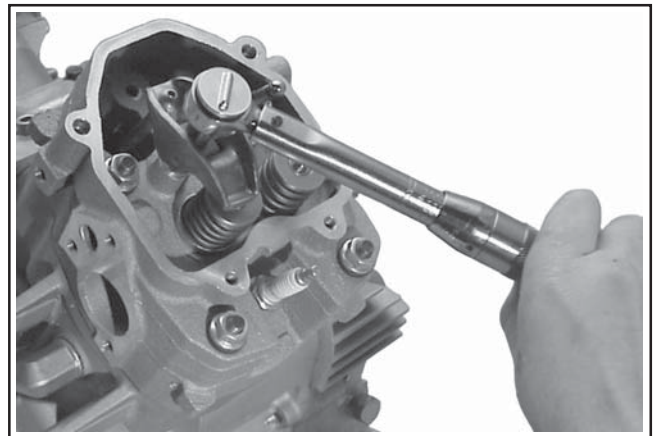

Figure 11-26. Torquing Rocker Arm.
8. Assemble the rocker arms and rocker arm pivots onto the #1 cylinder head. Position the rocker arm on the push rod and the end of the valve. Insert the hex. flange screw through the pivot, thread it onto the head, and torque it to **11.3 N·m (100 in. lb.)**. If the rocker arms are mounted with a stud and nut, instead of a hex. flange screw, torque the nut to **17.3 N·m (153 in. lb.)**. See Figure 11-26.